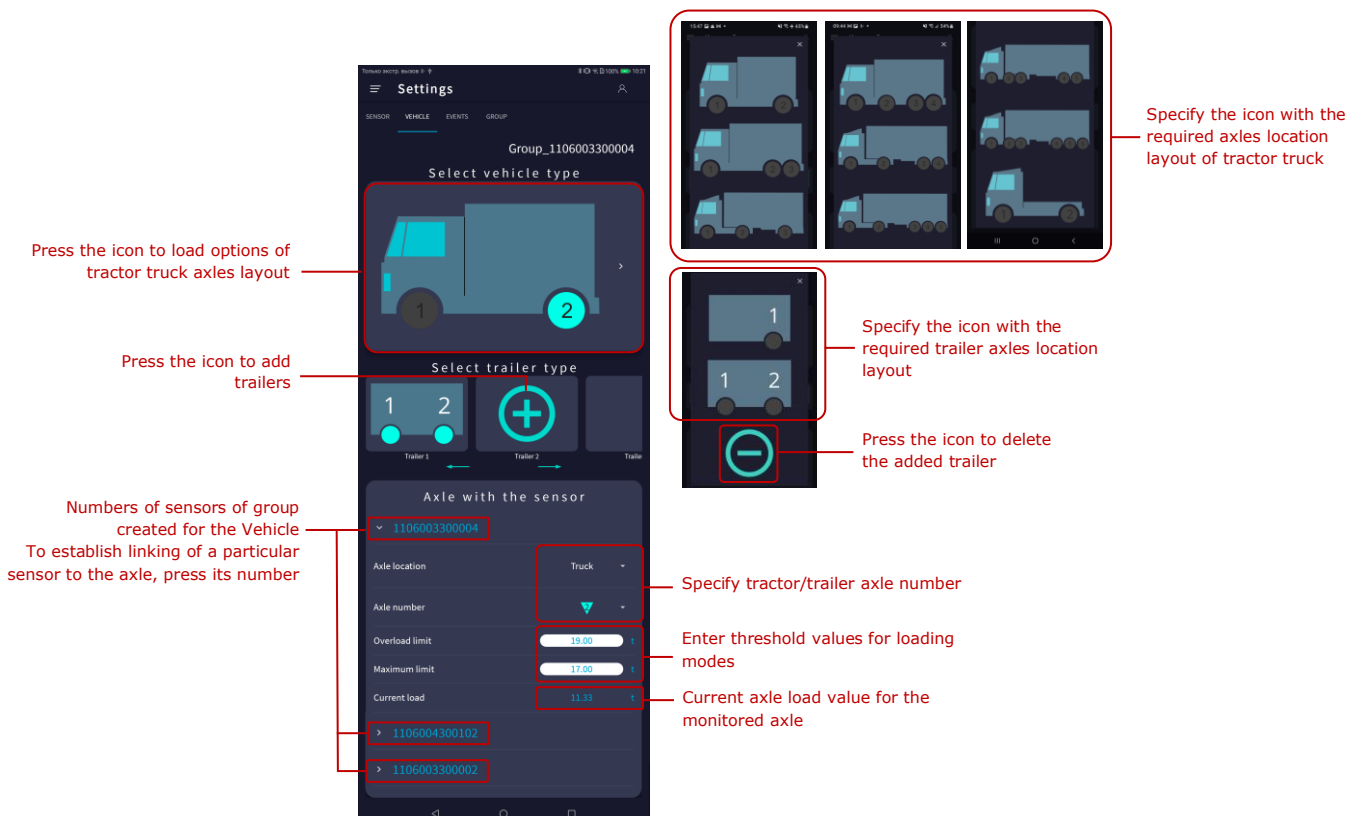

Figure 7 — Example of establishing linking of wireless sensors to their respective axles and entering threshold values for loading modes
3) Using visualization tools that are available in the application (**Settings** submenu, **Vehicle** tab), specify the layout of the axles' location in the monitored Vehicle for the tractor truck and for the trailers (if any) (see figure 7).
4) By pressing the sensor number in **Axle with the sensor** area, link it to the respective Vehicle axle and set thresholds for loading modes. The list of settings contains the following Parameters (see figure 7):